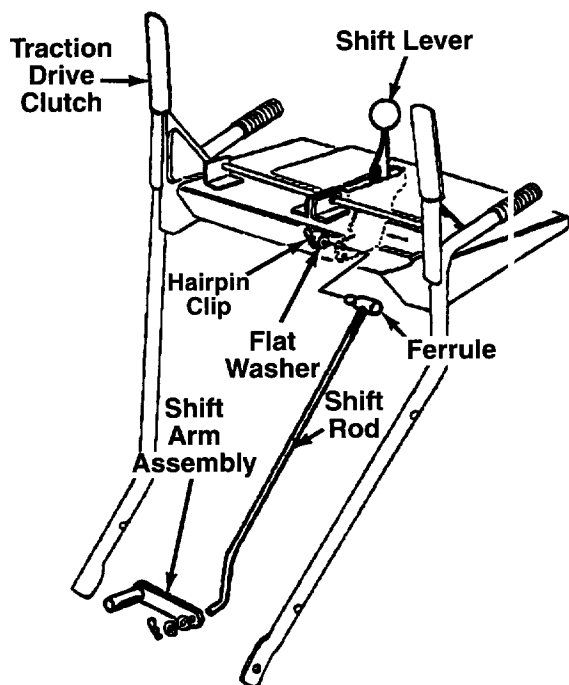

FIGURE 7.
1. Place the shift lever (on the handle panel) in the sixth (6) speed position (all the way forward).
2. Place the bent end of the shift rod into the hole in the shift arm assembly. See figure 7. Secure with spring washer, flat washer and hairpin clip.